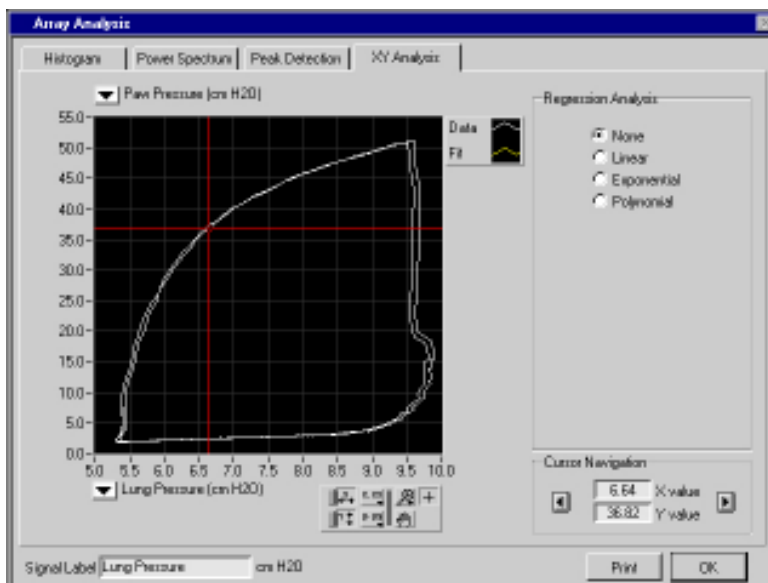

Figure B-22. Array Analysis-Pulmonary Pressure Relationships
- Click on the **Array** button to the right of either graph to display the Array Analysis dialog box. Select the XY Analysis tab to display the pressure relationship loops as shown in Figure B-22.